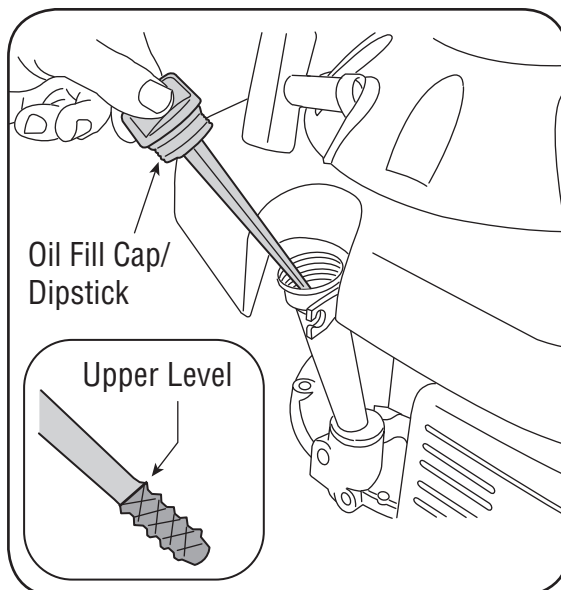

Figure 9-2: Checking the oil level.
1. Remove the oil filler cap and wipe the dipstick clean, Figure 9-2.